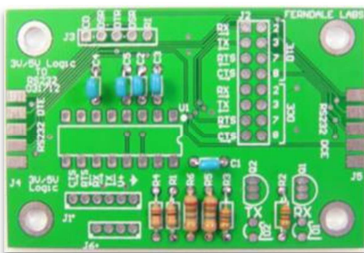

Figure 5 Capacitors and Resistors installed
- Install the 0.1 μ F 50V capacitors C1, C2, C3, C4 and C5. These are not polarized and can be oriented either way. They install like the resistors except do not require pre-bending the leads. See Figure 5 to see the resistors and capacitors installed.